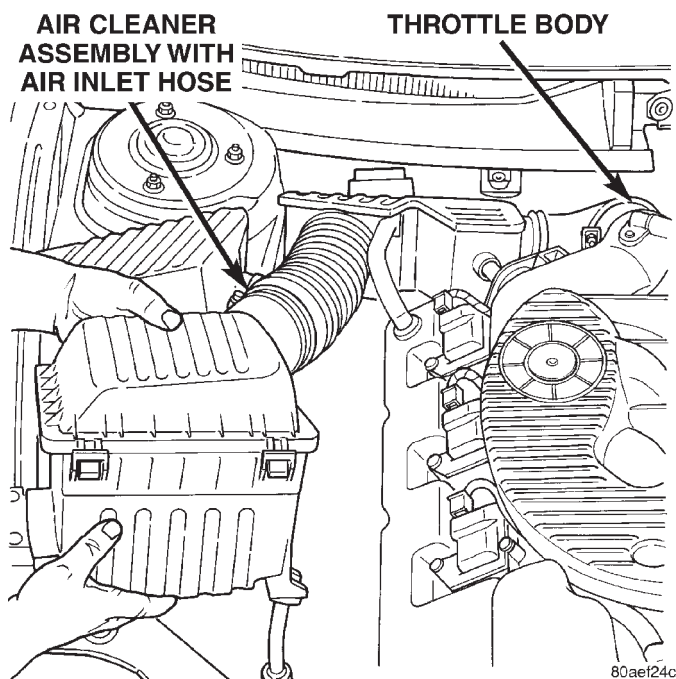

Fig. 29 Air Cleaner and Inlet Hose
- Remove air cleaner assembly and air inlet hose (Fig. 29).